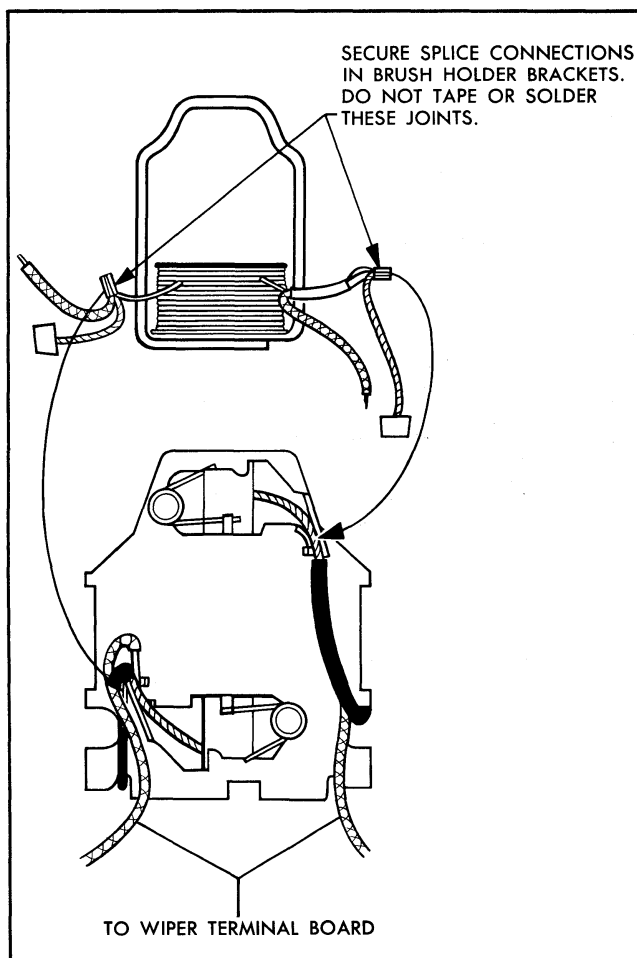

Fig. 11-89 Motor Splice Connections
2. Disassemble motor section and check all splice connections (Fig. 11-89).
d. Brush pigtail connections at splice joints (Fig. 11-89).